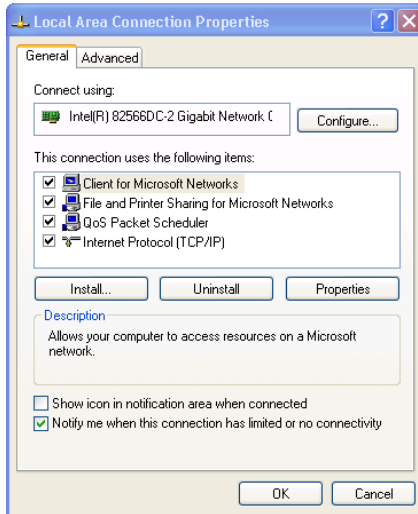

Figure 11: Local Area Connection Properties Window
5. Select **Internet Protocol (TCP/IP)** (see Figure 11).